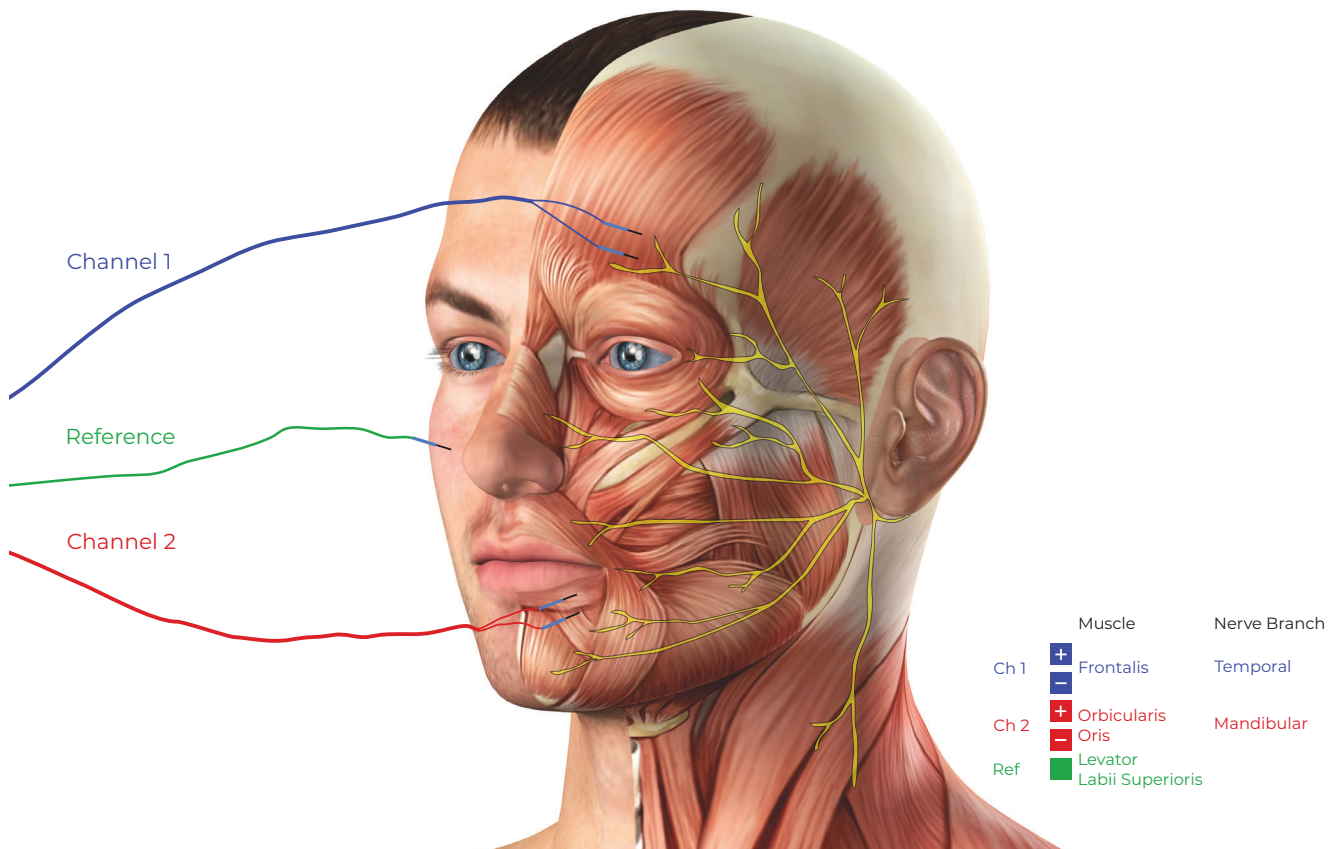

Figure 6.1: Suggested electrode placement during surgery of the middle ear.
2. Insert each pair of Subdermal Needle Electrodes into the appropriate muscles indicated in Figure 6.1 (page 11), with the wires leading away from the surgical site. Ensure that the needles of each electrode are inserted adequately into the muscle and not simply under the skin.